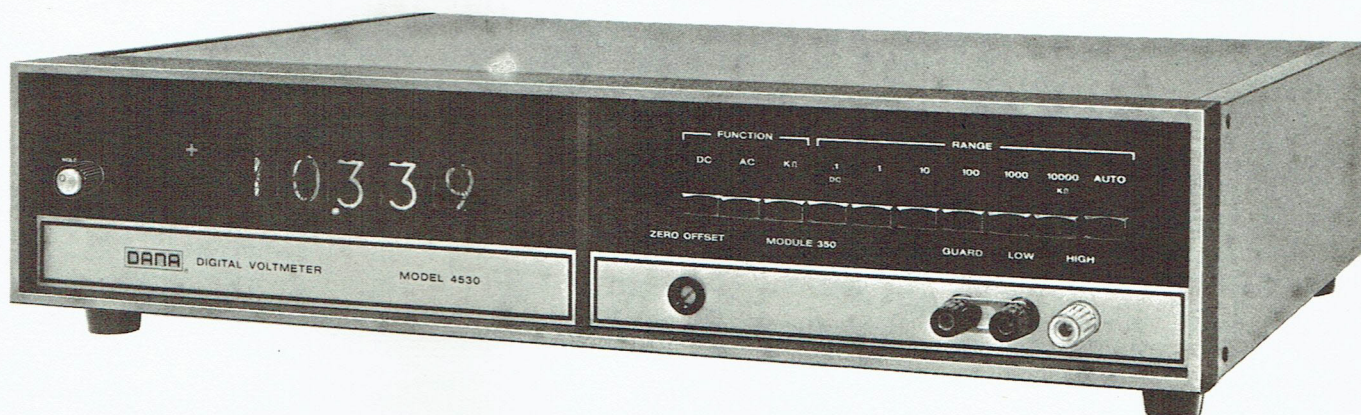

Figure 1.1 - Series 4500 Digital Multimeter
1.2 This manual describes the Dana Series 4500 Digital Multimeters (DMM). The basic models are the 4530 and the 4570 which differ only in their mechanical packaging. Model 4530 (see figure 1.1) is a thin-line instrument (3 ½ inches high) designed for standard rack mounting while Model 4570 is primarily a bench type instrument. Descriptions in this manual apply to all models unless otherwise indicated.